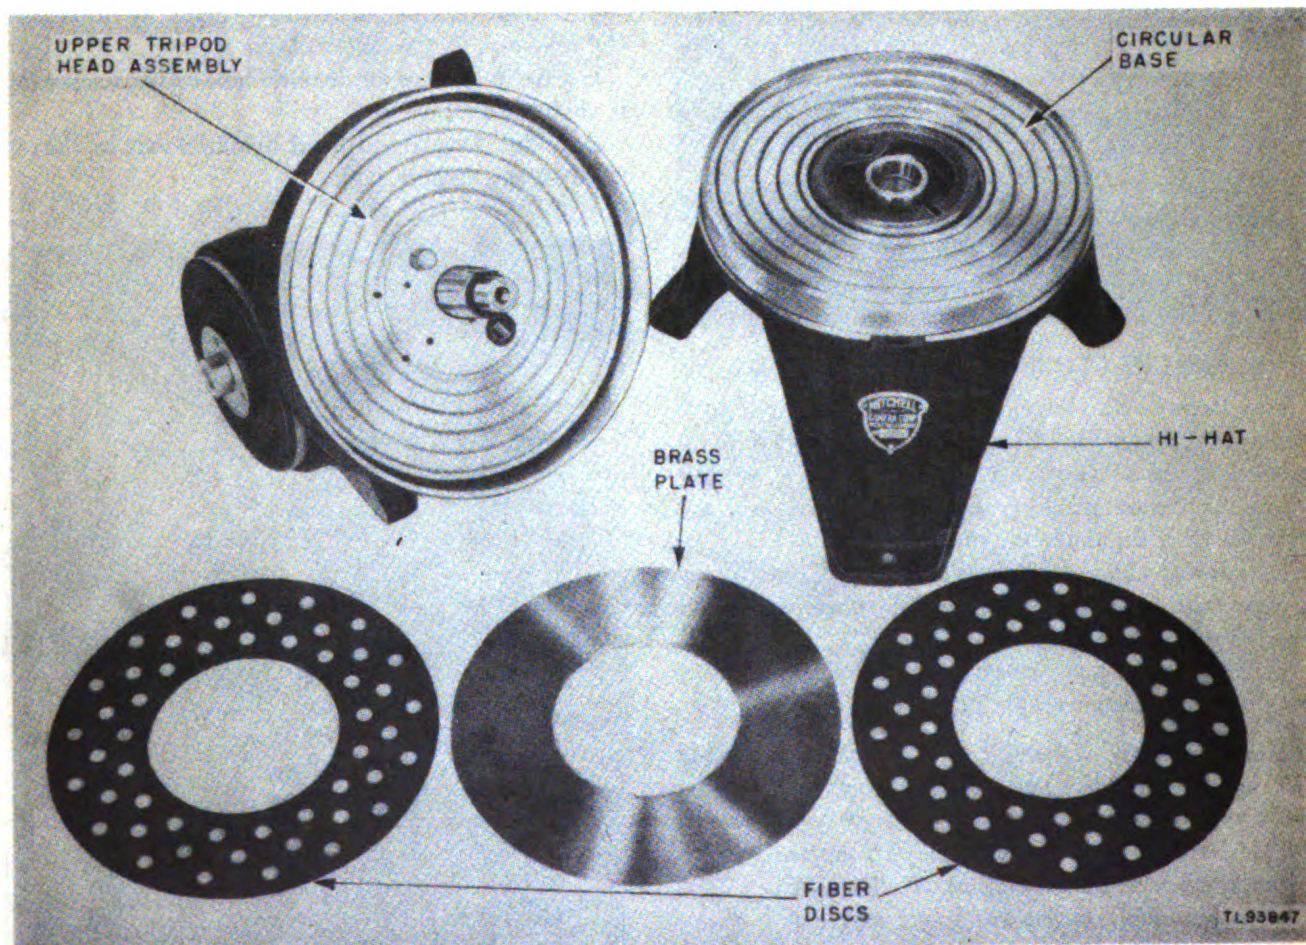

Figure 140. Fiber disks and brass plate removed from tripod head.
82. Replacing Tripod Head Brass Clutch Plate and Fiber Disks (fig. 140)